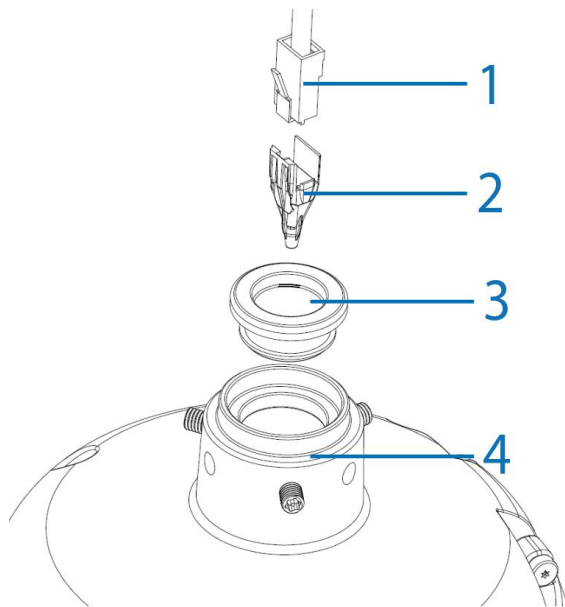

Figure 8
2. Insert the RJ45 cable connector (1) (Figure 8) into the insert tool (2) (Figure 8).
3. Push the insert tool and cable through the grommet hole (3) (Figure 8).
4. Remove the insert tool from the RJ45 connector and pass the cable through the NPT cap (4) (Figure 8).